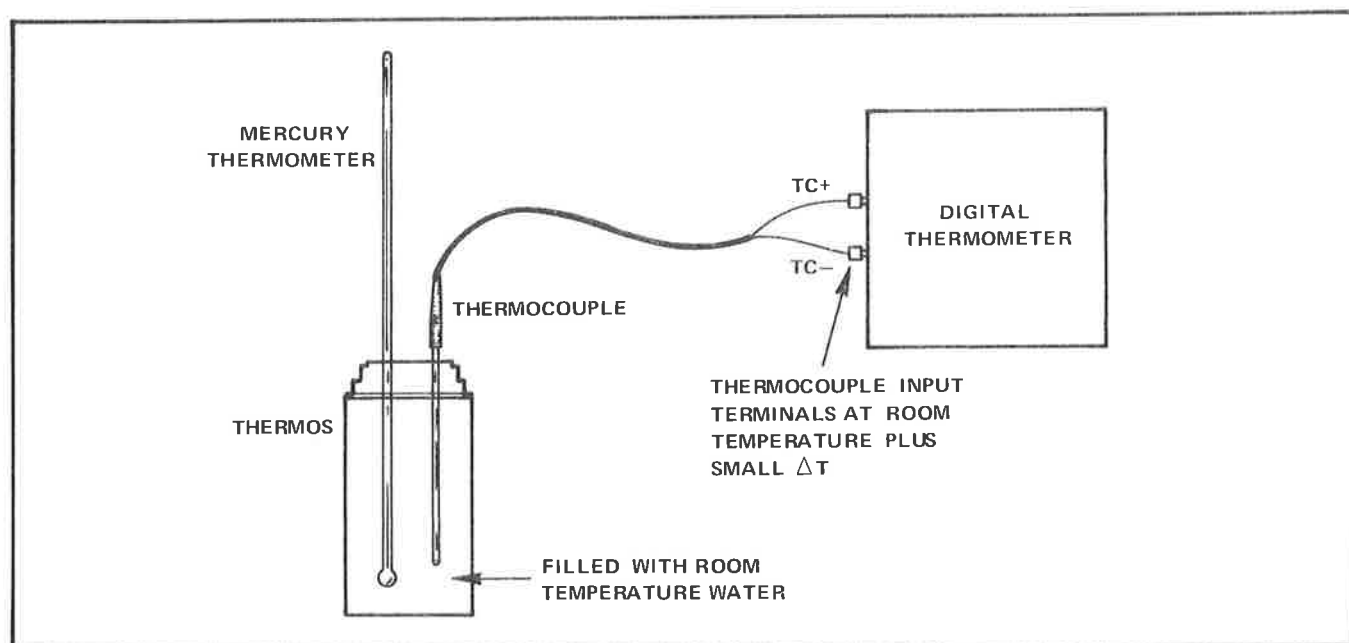

Figure 4-3. ROOM TEMPERATURE LAG BATH
- Place the thermocouple in a room-temperature lag bath. (See Figure 4-3 for an illustration of lag-bath construction. Two holes should be drilled in the thermos lid to provide a snug fit for the mercury thermometer and thermocouple probe.)